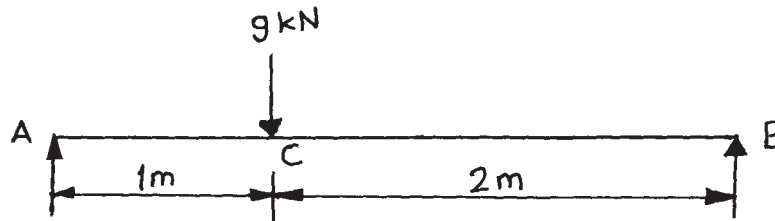

Fig. No. 3
a) Calculate deflection under point load of a simply supported beam as shown in Fig. No. 3. Take  $EI$ =constant. Use Macaulay's method.